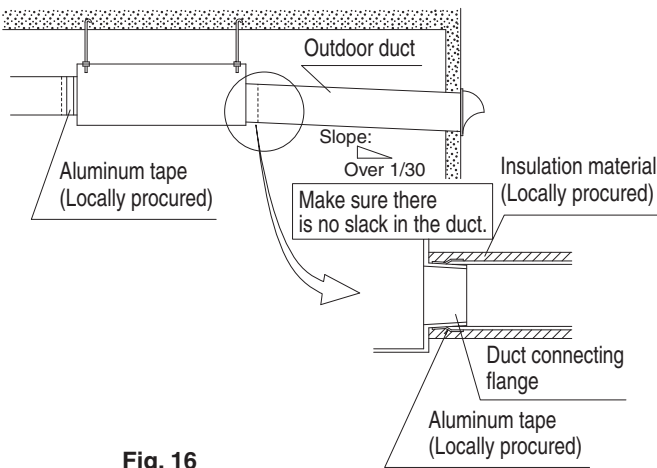

Fig. 16
- To prevent air leakage, wind aluminum tape round the section after the duct connecting flange and the duct are connected. **(Refer to Fig. 16)**
- Install the two outdoor ducts with down slope (slope of 1/30 or more) to prevent entry of rain water. Also, provide insulation for three ducts (Outdoor ducts and Indoor supply air duct) to prevent dew condensation. (Material : Glass wool of 25 mm thick) (Refer to Fig. 16)
- Using flexible or silent ducts can be effective in reducing the air discharge sound of the supply air to room (SA). Select materials keeping in mind the fan strength and operating sound of the unit. Consult your Daikin dealer for selection.
- Set the pitch between the exhaust air outlet (EA) and the outside air intake (OA) to 3 times the duct diameter.